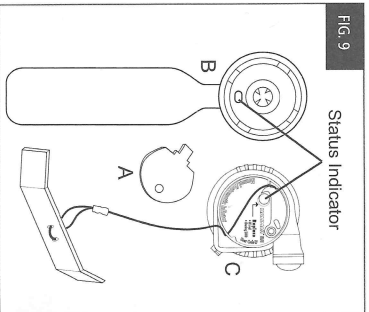
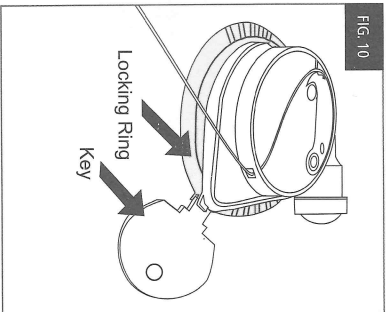

FIG. 10
FIG. 11
3. Insert the Inflator Removal Key between the yellow inflator cap and the black locking ring (Fig. 10), and turn counter clockwise. The black ring will rotate counter clockwise behind the yellow inflator cap (Fig. 11).